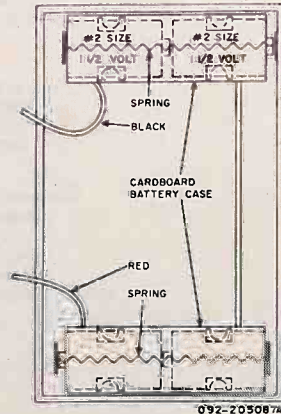

Fig. 1
Your D-3716B radio uses four #2, 1½ volt flashlight cells as shown in Fig. 1. To replace these, proceed as follows:
3. Remove the two cardboard battery holders and insert two flashlight cells in each holder. Be sure batteries are inserted in direction shown in Fig. 1. Inserting them incorrectly will make receiver inoperative and cause possible damage to parts.
4. Replace battery holders containing the batteries in the metal clips exactly as shown in Fig 1 and secure them in place by rehooking the metal springs referred to in step 1 above.